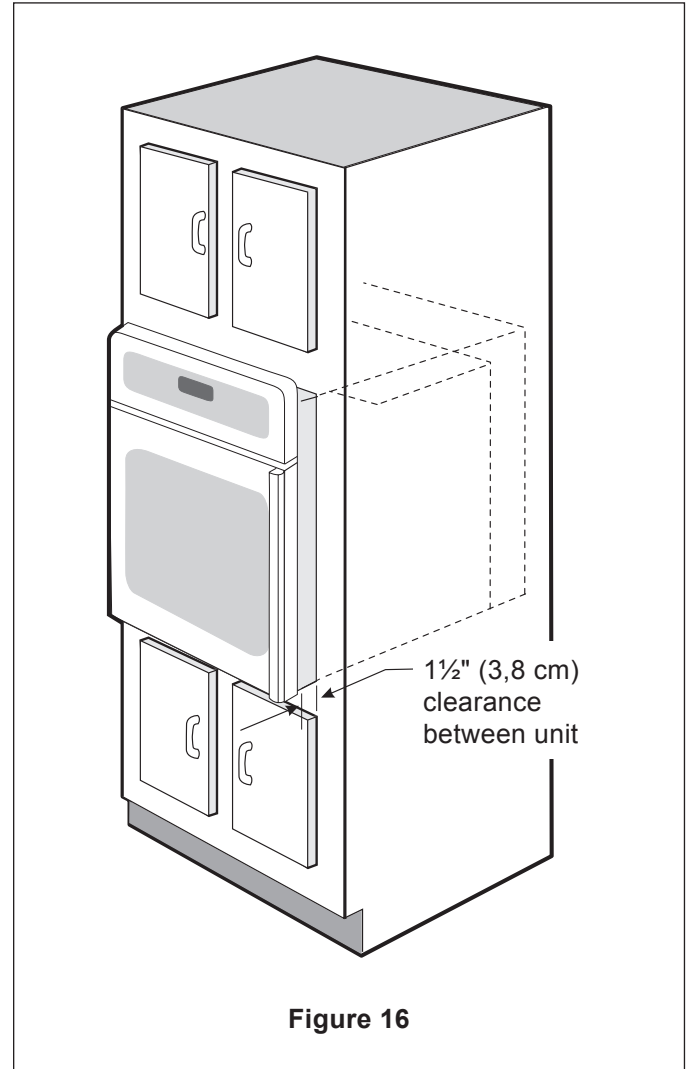

Figure 16
- 4 Insert the oven into the cabinet opening. Slide oven inward leaving 1½" (3,8 cm) clearance between the oven and front of cabinet (see Figure 16). Pull the armored cable through the hole for it in the cabinet and toward the junction box while moving the appliance inward.